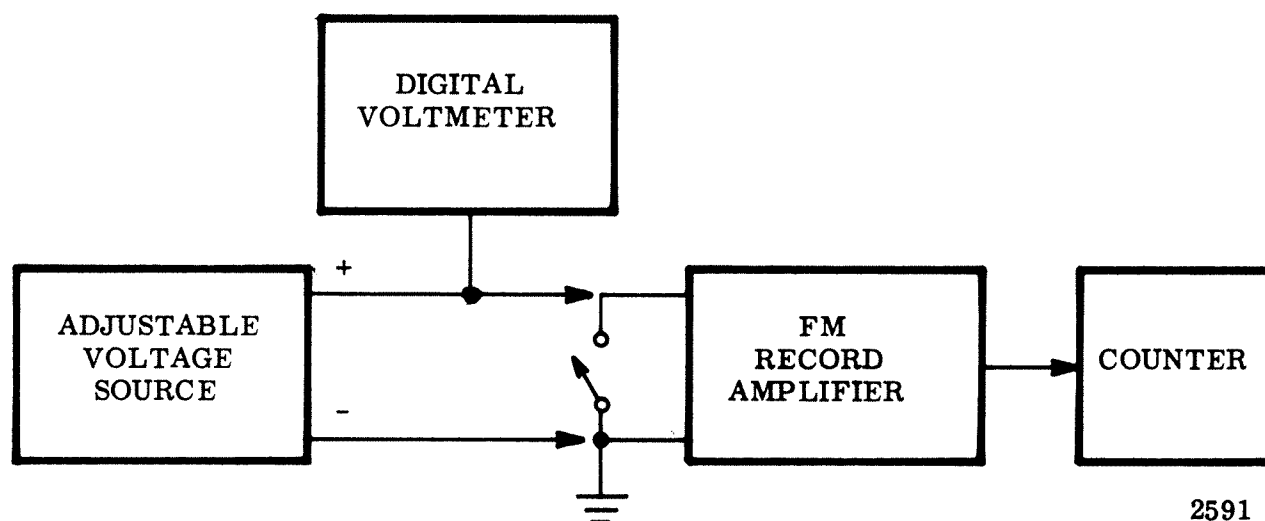

Figure 4-13B Standard Test Equipment Setup for FM Record Amplifier Service Alignment
- Step 2: Connect the switch across the INPUT and GRD jacks and the counter across the HEAD MON. and GRD jacks on the amplifier front panel. (See figure 4-13B.) Leave d-c voltage source disconnected.